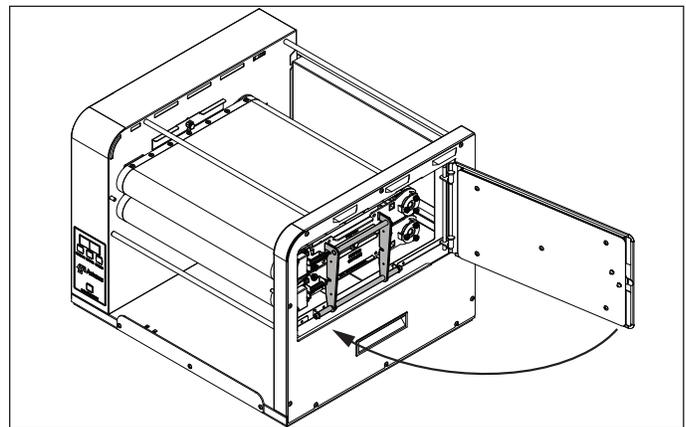

Figure 7.
9. Close and lock the side panel (Figure 7).